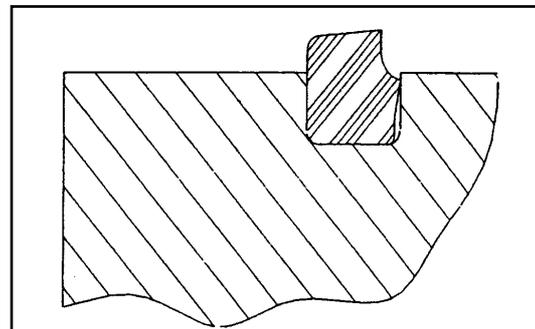
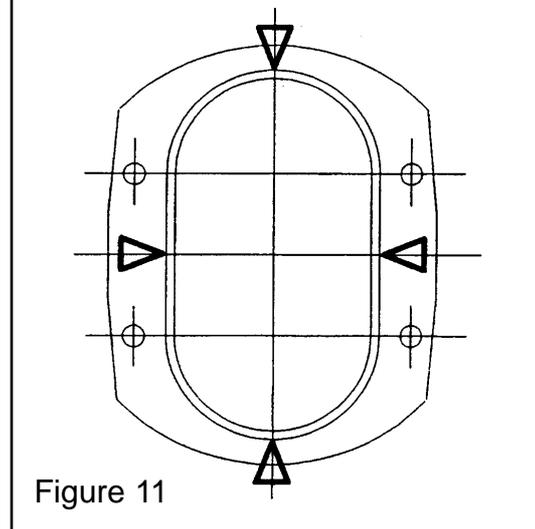

Figure 10
Figure 11
6.01 END COVER (see Figure 10 and 11)
- a) 55 Series - Fit end cover joint ring (66) in end cover as Figure 10. Press in, in 4 places first, see Figure 11, then press in the rest to avoid forming loops.